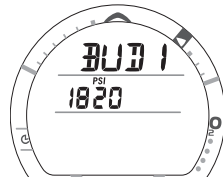

Fig. 95 - BUDDY 1 (TMT 2)
- After 5 seconds, or less if BUD 1's (TMT 2's) signal is acquired, the BUD 1 screen will appear displaying the graphic BUD1 and BUD 1's Pressure (Fig. 95), or the graphic NotAvAil (Not Available), for 5 seconds.